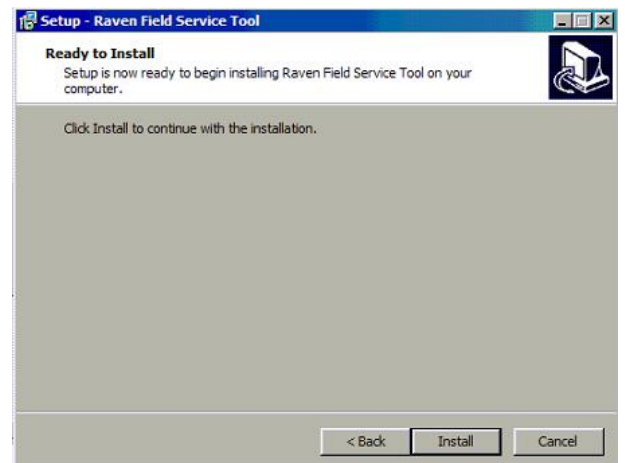

Figure 19 Raven Field Service Tool installation.
5. Press on *Install* (Figure 19).